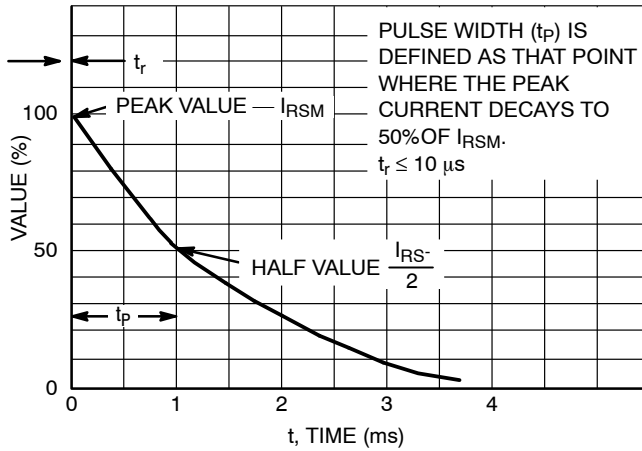

Figure 1. 10 × 1000 μ s Pulse Waveform
- Peak Power: 24 W @ 1.0 ms (Unidirectional), per Figure 1
- Non-repetitive pulse per Figure 1.